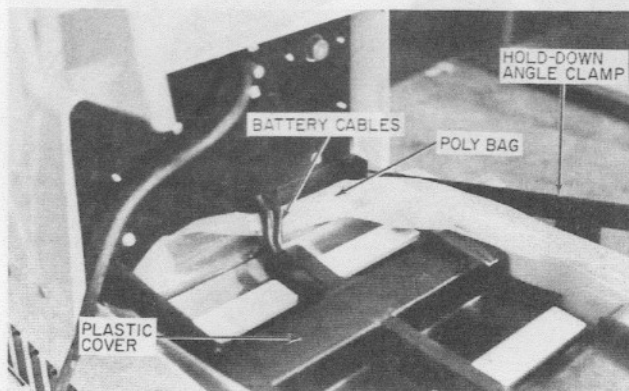

Figure 5
7. Place the plastic cover over the batteries, but inside the top edges of the bag, making sure the battery cables go through the end slots of the cover, and that the center cables fit into the center raised portion of the cover. (See Figure 5.)
clamps. (See Figure 5.) Notice there is a right and left clamp.
9. Place the plastic cover over the batteries, but inside the top edges of the bag making sure the battery cables go through the end slots of the cover, similar to Figure 5.
8. Place the plastic cover over the batteries, but inside the top edges of the bag, making sure the battery cables go through the end slots of the cover, similar to Figure 5.
9. Place the longer pair of hold-down angle clamps along the sides of the battery cover outside the top edges of the bag so the bag is between the cover and the clamps. See Figure 5. Notice there is a left and right clamp.